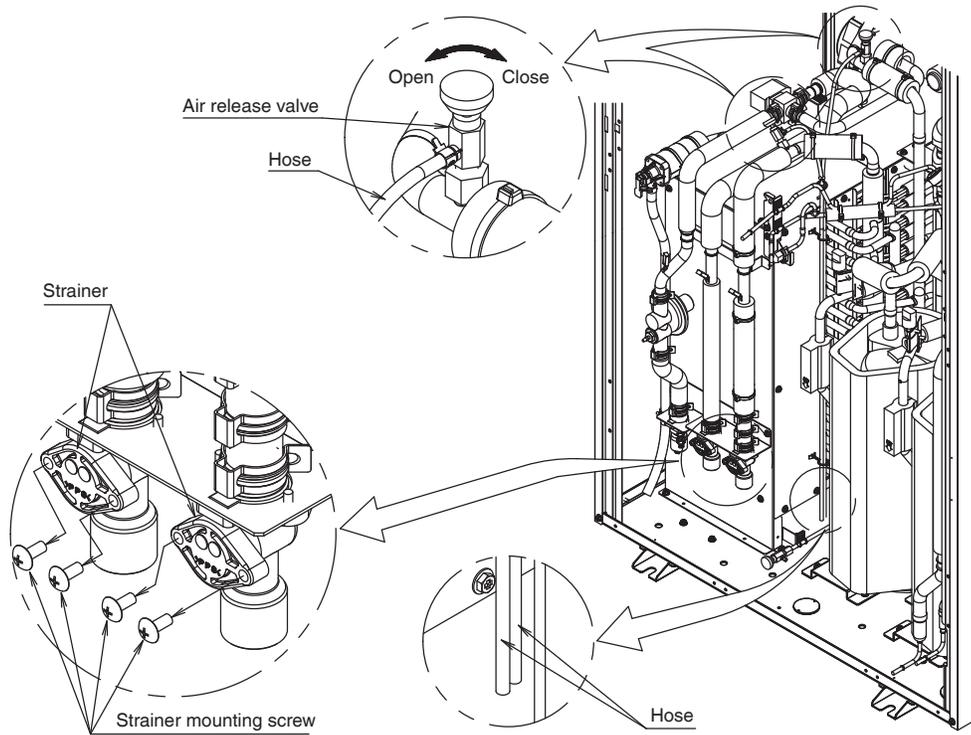

Fig. 36
- (1) Open the front panel (lower).
- (2) Open the gate valve of the circulating water piping and hot water piping between the cascade unit and the hot water storage tank to allow water to flow through the machine.
- (3) Open both air release valves (refer to Fig. 36) to release air from the water piping in the cascade unit.